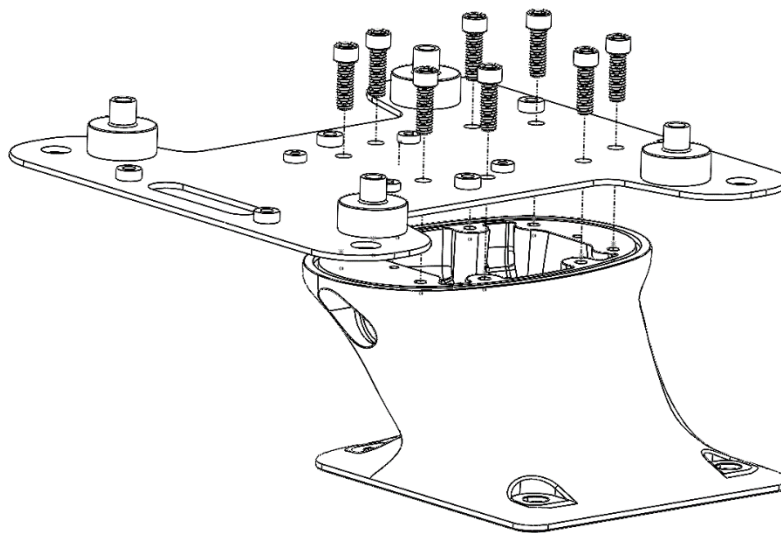

Figure 26: Place Plate onto Pedestal
1. With the antenna upside down, take out the screws shown in Figure 26.